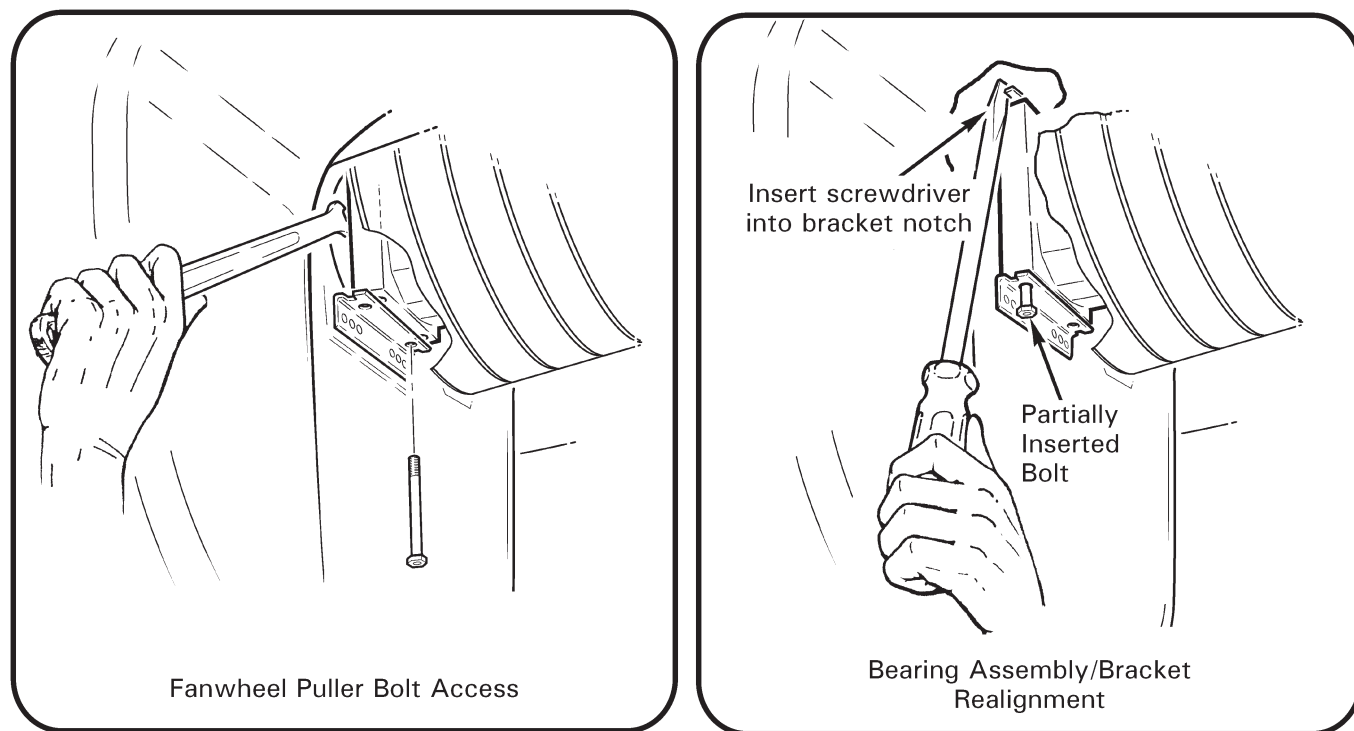

FIGURE 6-3 FANWHEEL HUB BOLT ACCESS
7. Use a half-inch open-end wrench to hold fanwheel hub bolt heads and remove 6 of 8 nuts and washers (see Figure 6-3). Replace nuts with MT092-3 spacers.